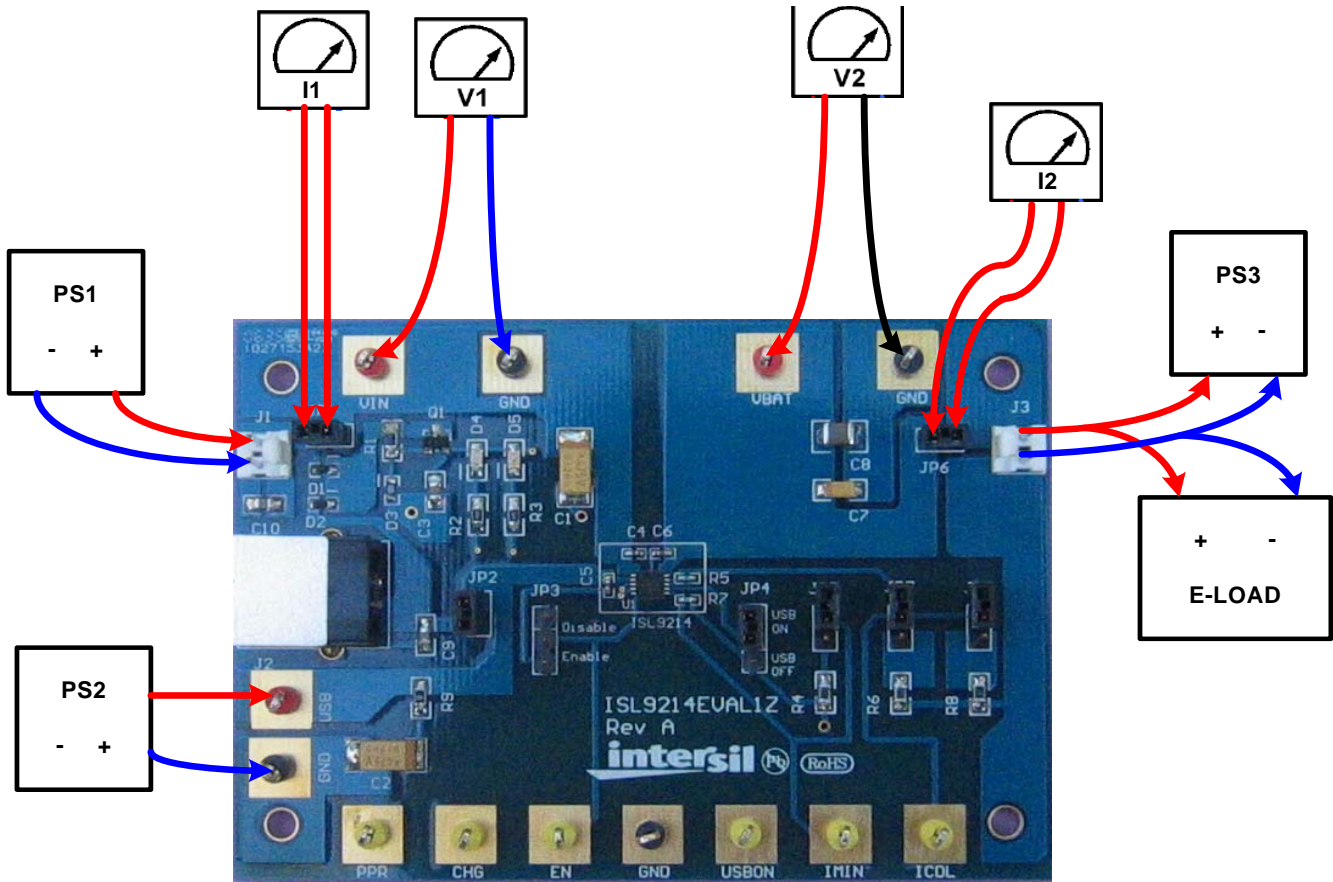

FIGURE 1. CONNECTION OF INSTRUMENTS
Quick Setup Guide (Refer to Figure 1)
- Step 3: Connect a current meter to JP6, as shown in Figure 1
- Step 4: Connect a current meter to JP6 as shown in Figure 1
JP1 - A shunt installed on JP1 connects the input source from connector J1 to the circuit if input current measurement is not needed. The shunt can be replaced by a current meter if input current measurement is needed, as shown in Figure 1.
JP6 - A shunt installed on JP6 connects the BAT pin to the output connector J3 if output current measurement is not needed. The shunt can be replaced by a current meter if output current measurement is needed as shown in Figure 1.